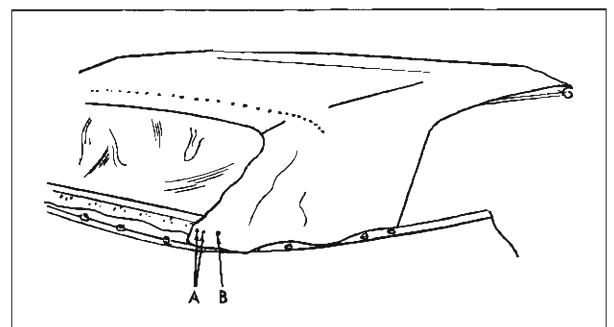

Fig. 21-51 Tacking Top Material
39. Using previously marked lines (ends of trim stick) as locating reference, tack top material to rear and rear quarter trim sticks. "A" in Fig. 21-51 shows top material installed to rear trim stick at inboard edge.
51. Unlock top from windshield header, apply neoprene-type weatherstrip adhesive to front flaps and to corresponding areas on side roof front rails. Fasten flaps to side roof front rails (Fig. 21-51). Lock top to windshield header.